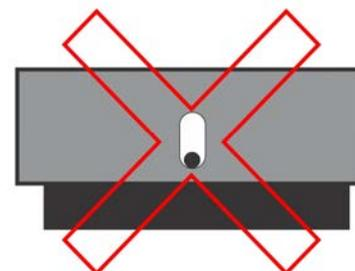

Figure 4
**Note:** The Interlock/Indicators on the 216 and Two-Screw BFM Series isolators can be used to quickly determine the amount of leveling adjustment available. Figure 4 shows an isolator that has reached its maximum leveling adjustment.